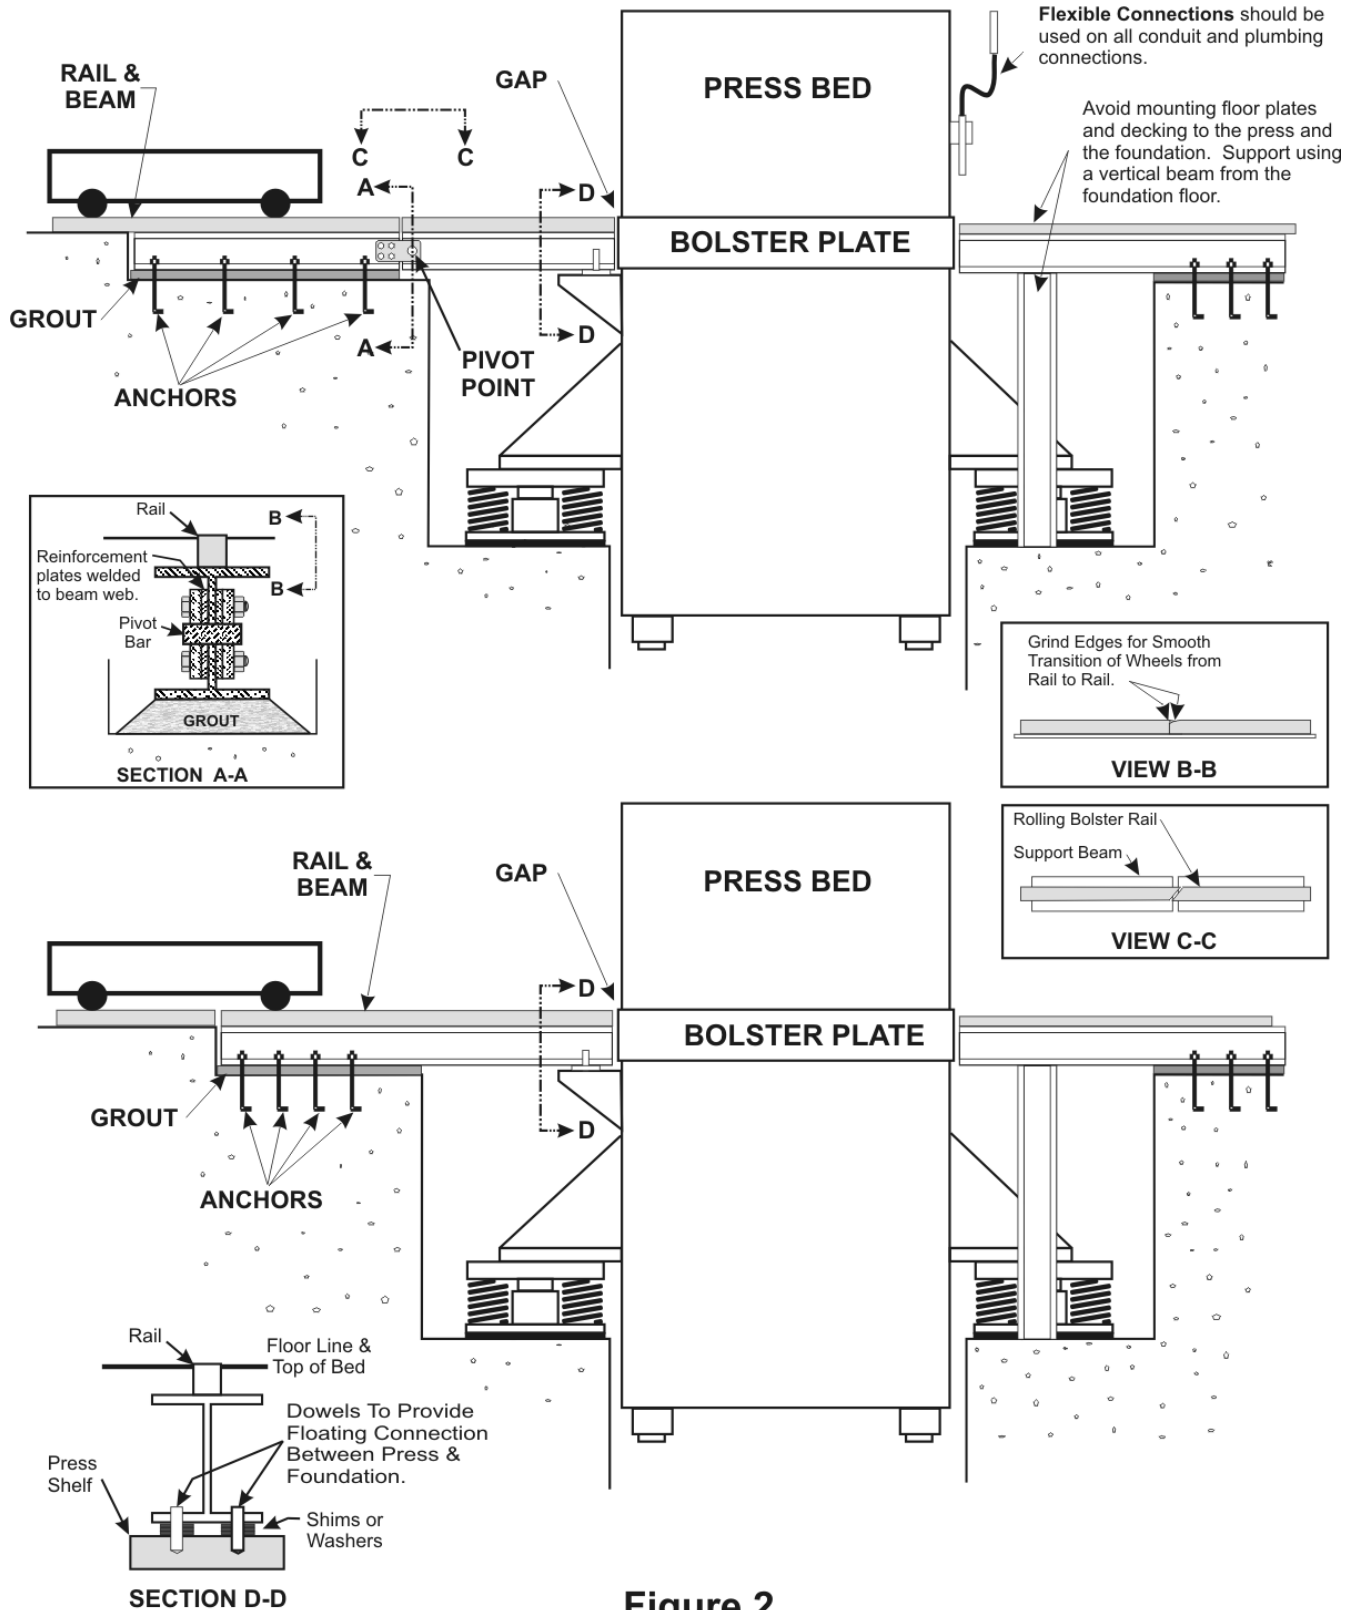

Figure 2
5. If rolling bolster plates or die carts are going to be used, they have to be installed in accordance with Figure 2. Since spring isolators are soft, they will deflect during loading and unloading of the die. The first method shown is preferred since rolling bolster beam floats with a changing press elevation, negating any alignment problems. Vibro/Dynamics spring isolators can also be equipped with an optional Lift/Lock™ feature that hydraulically prevents press tilting during this operation.